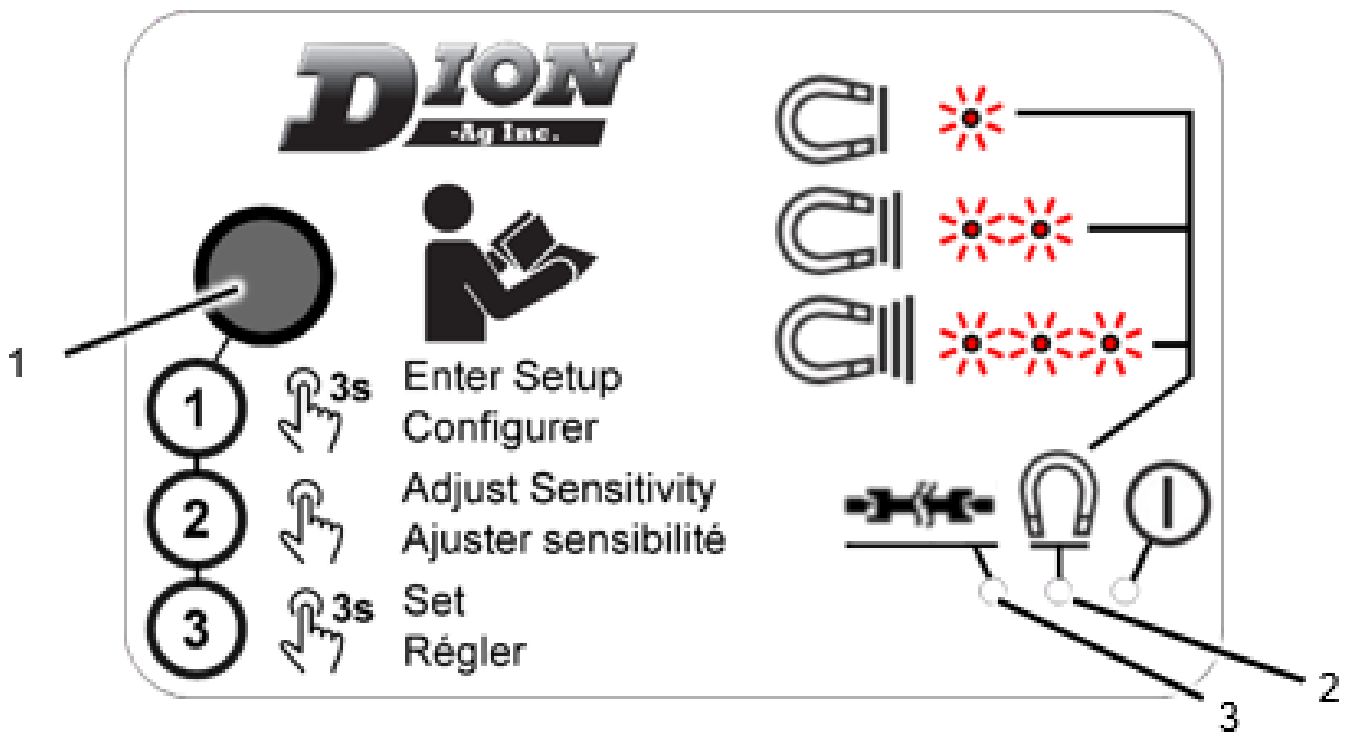
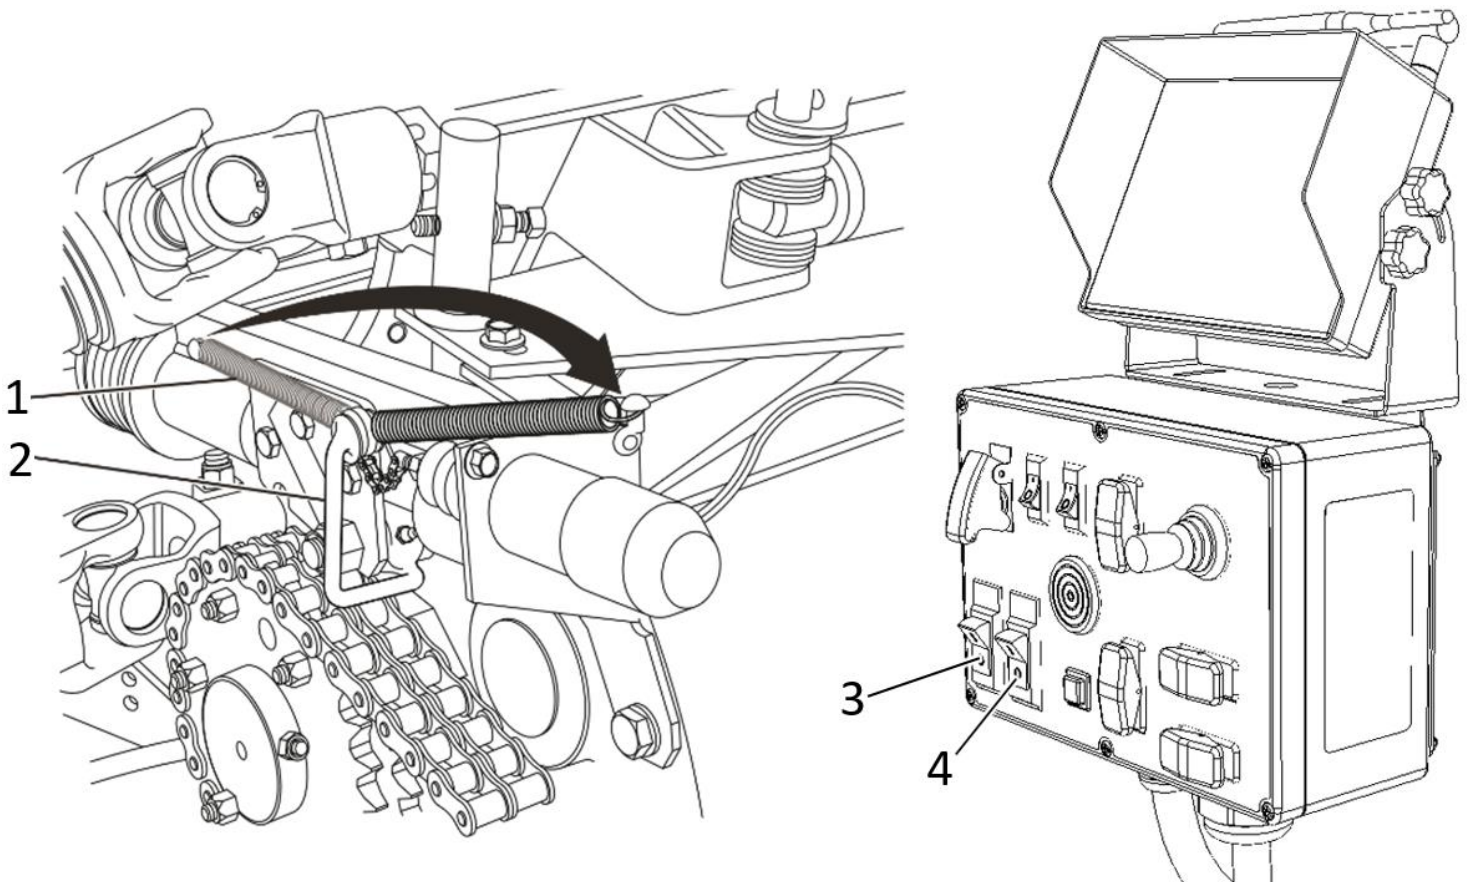

Figure 67: Metal detector sensitivity adjustment
Figure 68 Disabling the metal detector
When the metal detector fails to operate, it can be useful to by-pass the system in order to complete a full harvest day. However, when doing so, it must be taken into consideration that this is an **emergency and exceptional situation**. If this is the case, follow this procedure and refer to Figure 67 and Figure 68:
1. Switch ON both the breaker & switch (items 3 and 4, Figure 68) on the control box.
2. Press and hold the « R » button to run the feed rolls and header in reverse for a few seconds to allow the stop pawl (item 1, Figure 68) to disengage from the stop cam wheel.
- b **If the solenoid is not functional**, apply step "A", then attach the stop pawl spring (item 1, Figure 68) back to the second hook (see the arrow). Make sure the stop pawl clears the ratchet cam wheel.
In the cases where a speed sensor has failed or another reason which requires disabling the drive failure detector, proceed as described in Figure 68: